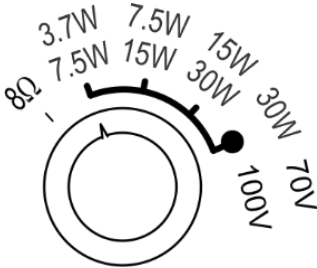

Figure 4: Adjust Tap Selector
3. Adjust each speaker to the appropriate tap setting before installing the grille (see Figure 4).